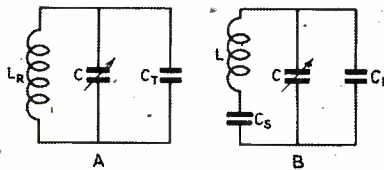

Fig. 1 — Oscillator with shunt trimmer across tuning condenser
Figure 1A shows a typical r-f circuit, where C_T is the r-f trimmer and C the main tuning condenser. Figure 1B shows the conventional oscillator circuit, where C_H is the shunt trimmer, C_S the series trimmer, and C the oscillator tuning condenser. For the moment both tuning condensers will be considered as being identical, although this is not a necessary condition. The only thing required to know about C is its minimum and maximum capacity. This information is supplied by the manufacturer of the gang condenser, or can be readily measured. The condensers C in Fig. 1 are assumed to vary from zero to maximum capacity. In other words the minimum capacity is considered to be part of the shunt trimmers in both the r-f and oscillator circuits.
Equations (9), (11) and (12) yield all the necessary information for tracking the circuit of Fig. 1.
Fig. 1—Attenuation of short waves generated at the transmitting antenna, T, and picked up at the receiving antenna, R, when the transmission path is over reflecting surface of the earth
"Automatic Radio Relay Systems for Frequencies Above 500 Megacycles" was the title of a paper delivered by J. E. Smith of RCA Communications. The discussion had special reference to television relay systems and the relay setup between Camp Upton on Long Island and New York City was described in some detail. Several relay stations are used here with little degradation in the quality of the signal. Wave propagation as applied to the transmission of 500-Mc signals over a reflecting surface, such as the earth, was discussed and the illustration of Fig. 1 shows a typical arrangement of transmitting and receiving antennas with respect to the earth's surface together with the formula for attenuation over such a path. It was stated that atmospheric noises in this part of the spectrum do not interfere to any considerable degree with the signal, but that thermal noise in the circuits and fluctuation noises do cause interference. In this type of service the speaker said that